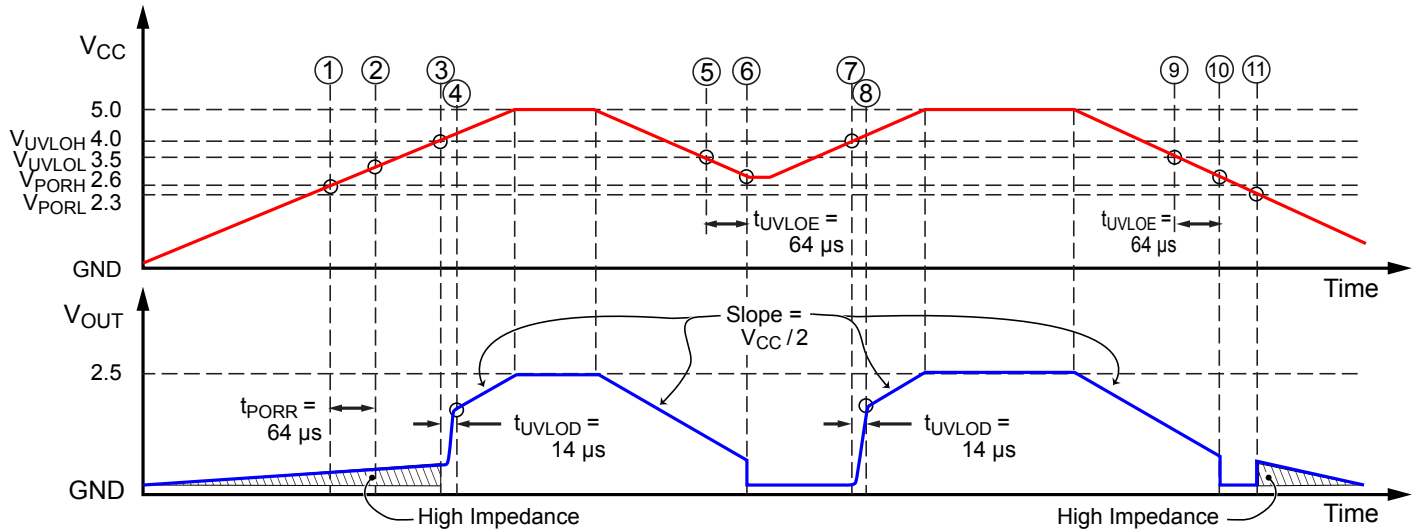
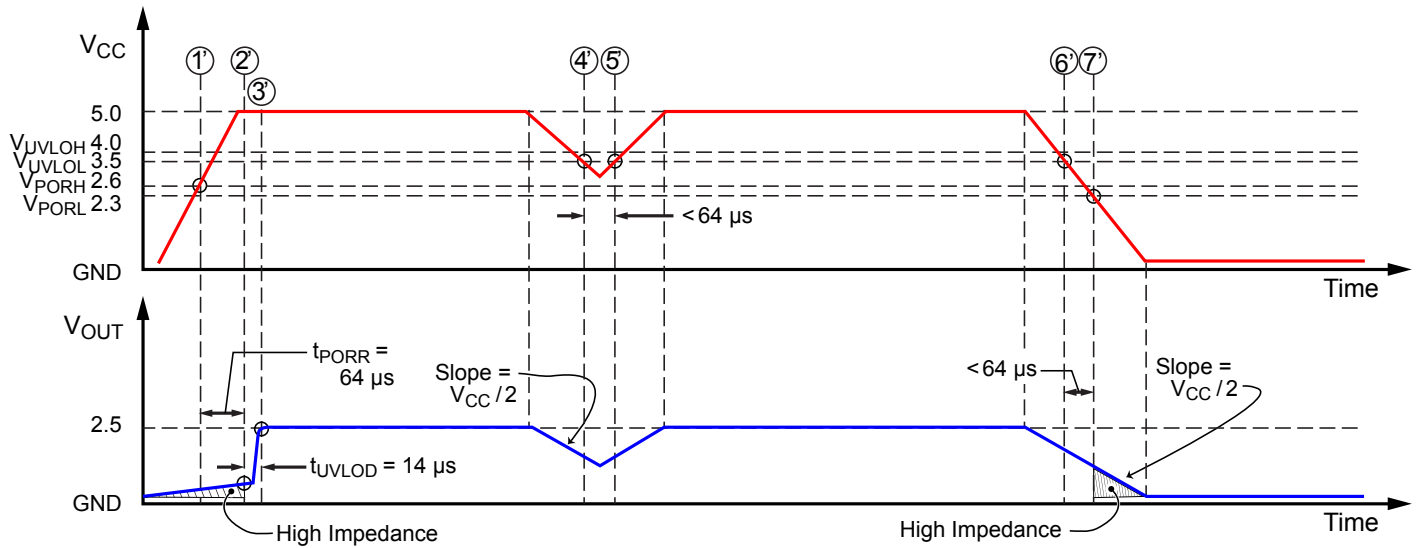

Figure 4: POR and UVLO Operation: Slow Rise Time case
Figure 5: POR and UVLO Operation: Fast Rise Time case
- Power-Up.** At power-up, as V_{CC} ramps up, the output is in a high impedance state. When V_{CC} crosses V_{PORH} (location [1] in Figure 4 and [1'] in Figure 5), the POR Release counter starts counting for $t_{PORR} = 64 \mu s$. At this point, if V_{CC} exceeds $V_{UVLOH} = 4 V$ [2'], the output will go to $V_{CC} / 2$ after $t_{UVLOD} = 14 \mu s$ [3']. If V_{CC} does not exceed $V_{UVLOH} = 4 V$ [2], the output will stay in the high impedance state until V_{CC} reaches $V_{UVLOH} = 4 V$ [3] and then will go to $V_{CC} / 2$ after $t_{UVLOD} = 14 \mu s$ [4].